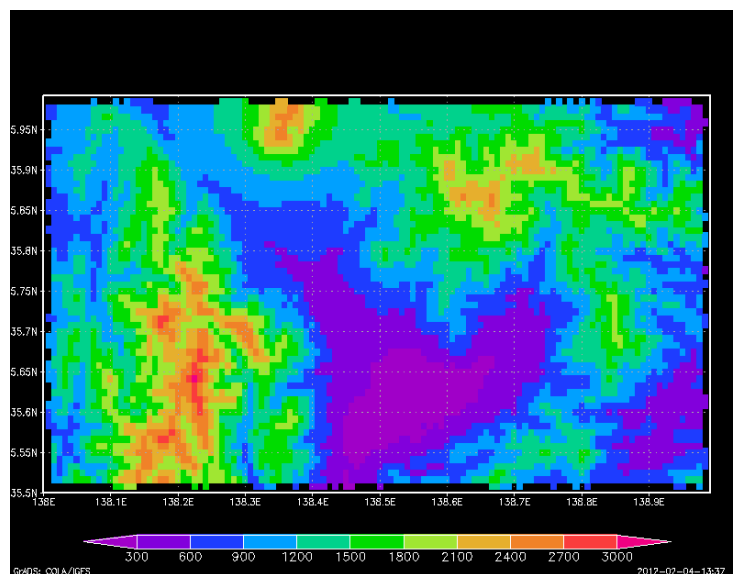

Figure 3: A sample of modDem.bin.
- **flowDir.bin**: Flow direction information. The direction convention is shown in Figure 3. The data format is integer 4-bit binary.